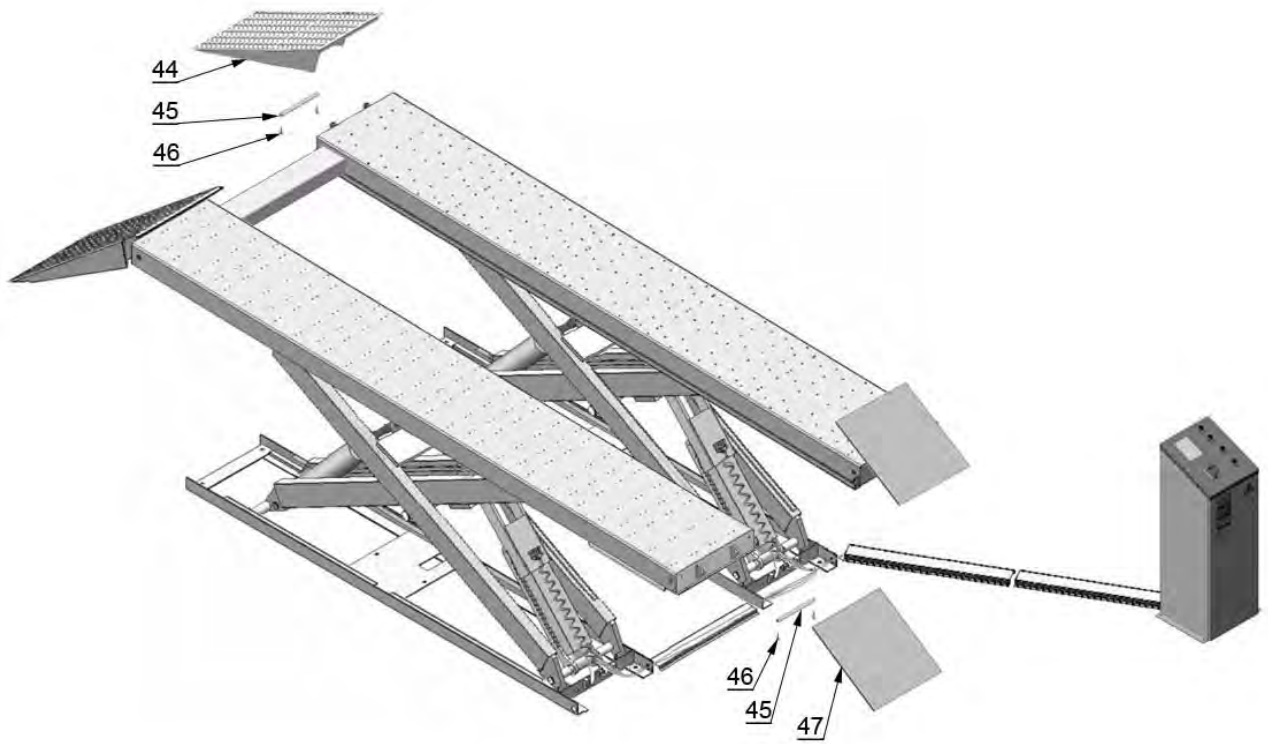

Fig. 5
1.2 Illustration of scissors lift **30-SS1201S** on surface installation (See Fig.5).